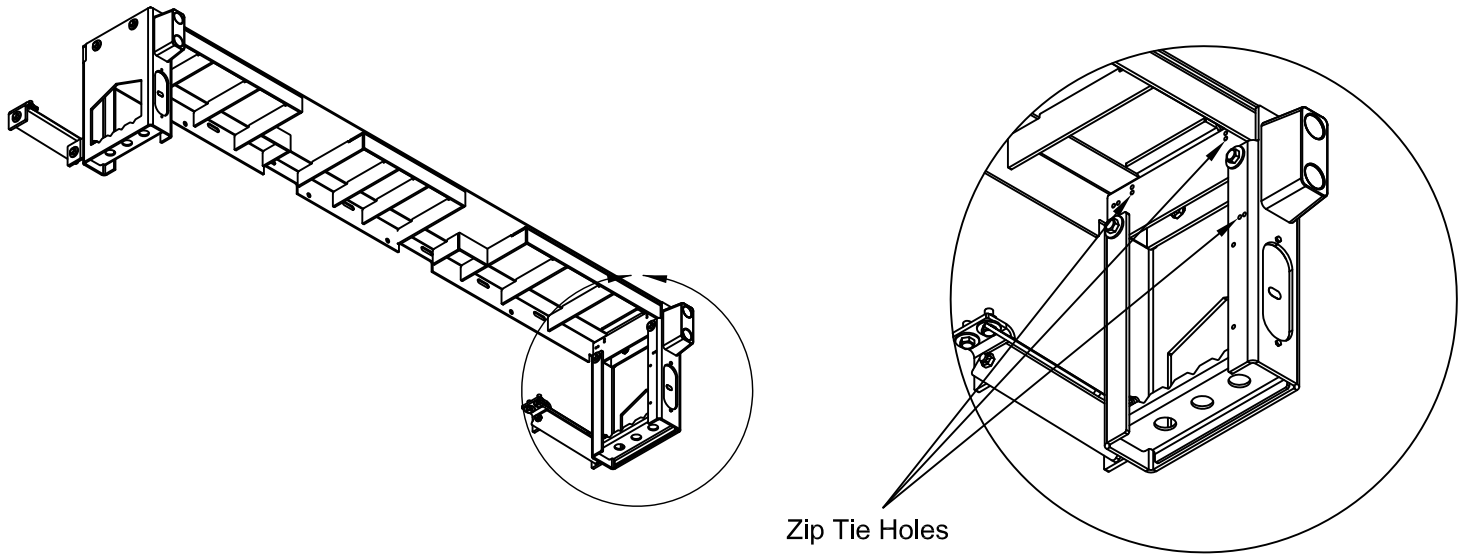

Figure 7: Zip tie locations.
7. Zip tie the wiring inside the bed extension, using provided holes (Figure 7).